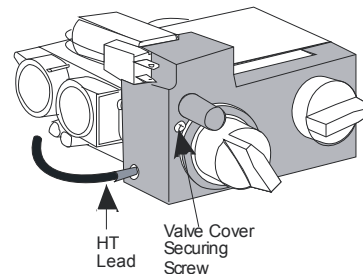

Figure 71
3. Remove the valve cover securing screw (see **Figure 71**).